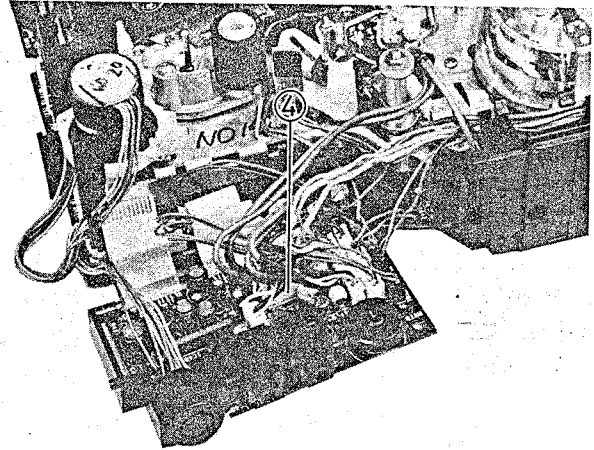

Fig. 2-56 Audio/Control (A/C) Head Removal
4. Disconnect connector CN415. (See Fig. 2-56)